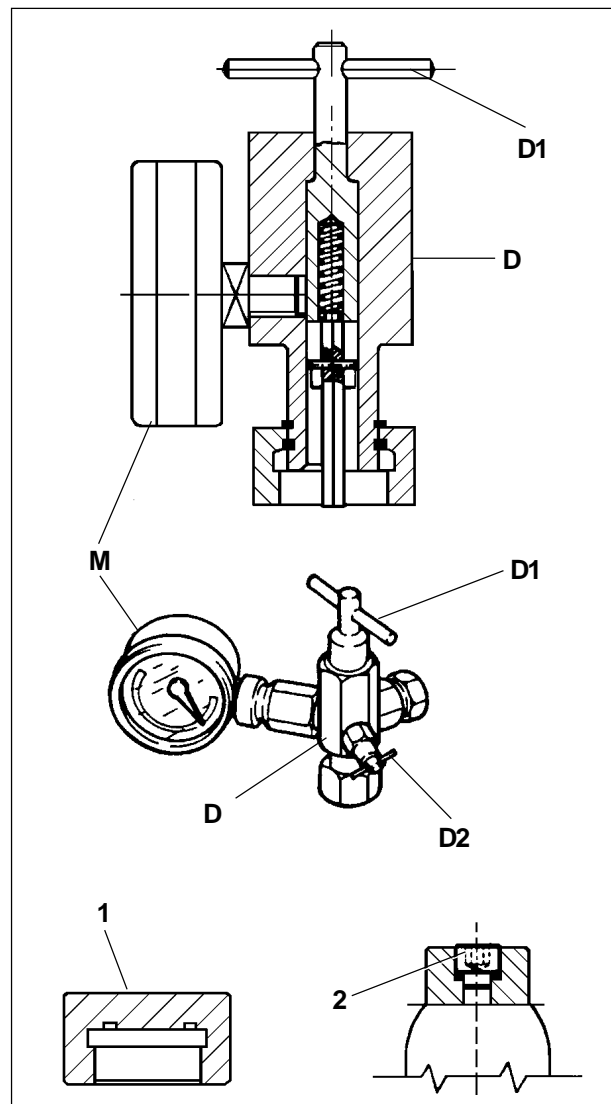

Fig. 3-20 Accumulator pre-charge test
- remove protection cover (1, Fig. 3-20);
- loosen the screw (2) by half turn using a hexagonal Allen wrench;
- turn the handwheel (D1) to loosen the screw (2);
- when the pointer of the pressure gauge (M) starts moving, turn out the handwheel (D1) by one more turn.